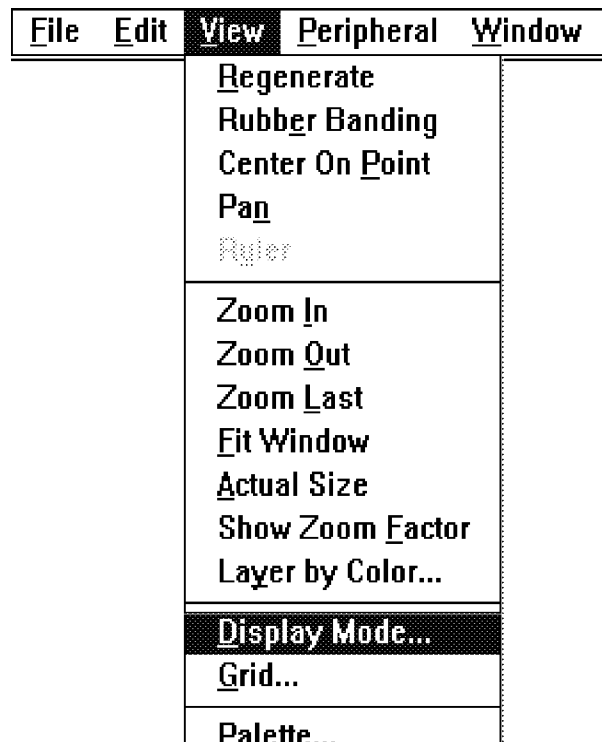

Figure 6-7
2. Click on the Display Mode menu item in the drop-down menu (see Figure 6-7).